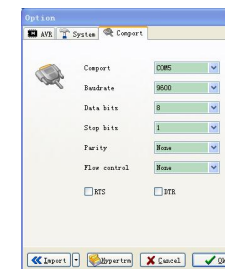

Fig. 11
- 5) At Option - Comport tab select the com port number corresponding to your scope and set parameters to 9600 baudrate, 8 data bits, 1 stop bit, and no parity (see Fig. 11).